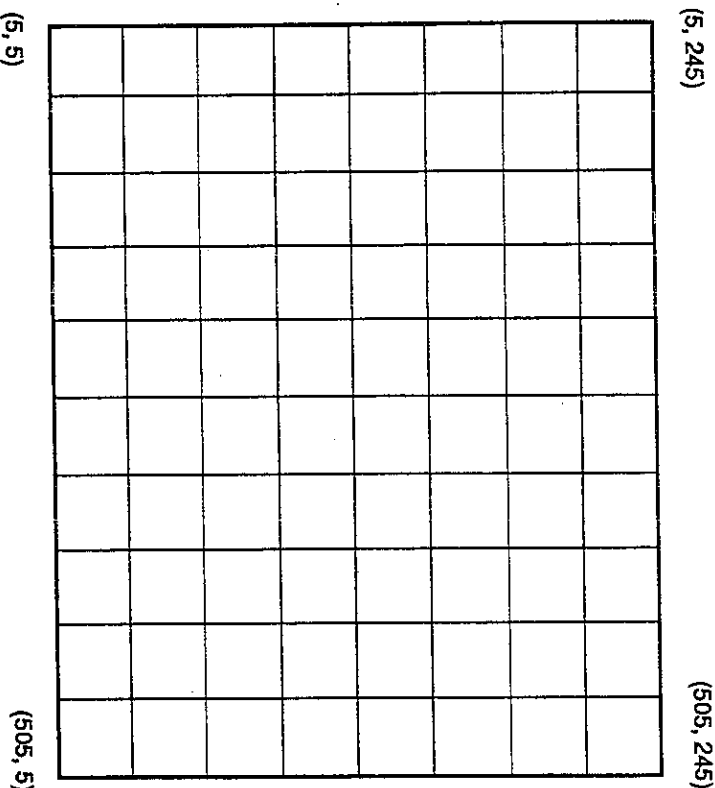

Figure 4-2. Spectrum Analyzer Graticule Coordinates.
The spectrum analyzer's graticule is represented by 500 intervals horizontally and 240 intervals vertically. The graticule corner coordinates are represented as shown in Figure 4-2.
Vertically, the data are digitized into 256 values from 0 to 255. The resulting graticule is represented by points 5 to 245(Figure 4-2). Values outside this range extend beyond the graticule area. Therefore, the sixth data point (5) along the vertical axis crosses the bottom graticule line; the 245th point crosses the top graticule line. See Section 6, *Programming*, for programming examples using CURVE and CURVE?